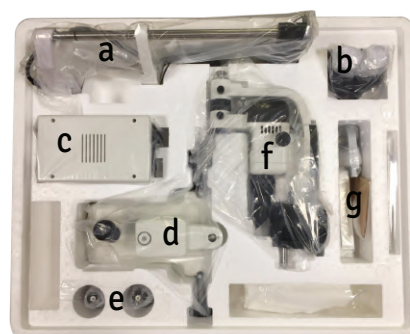

Figure-2 Chin Rest Assembly
4. Open the Thermocol box. You will find following Item Packed as Shown in Figure-2.
16. Remove the accessories and store them in an Appropriate place so that when they are needed they will be available. Refer to figure-2 & 10.